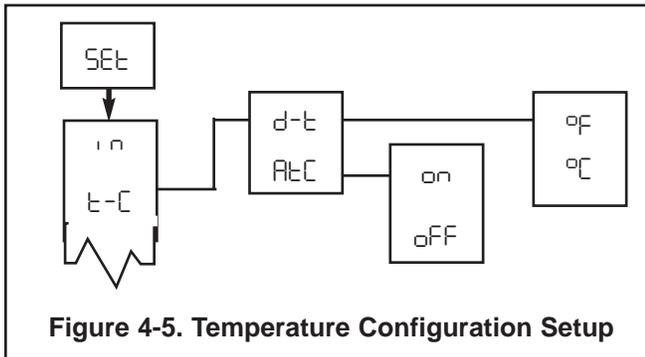

Figure 4-5. Temperature Configuration Setup
4.7.1 Temperature Setup (t-c). Refer to Figure 4-5.